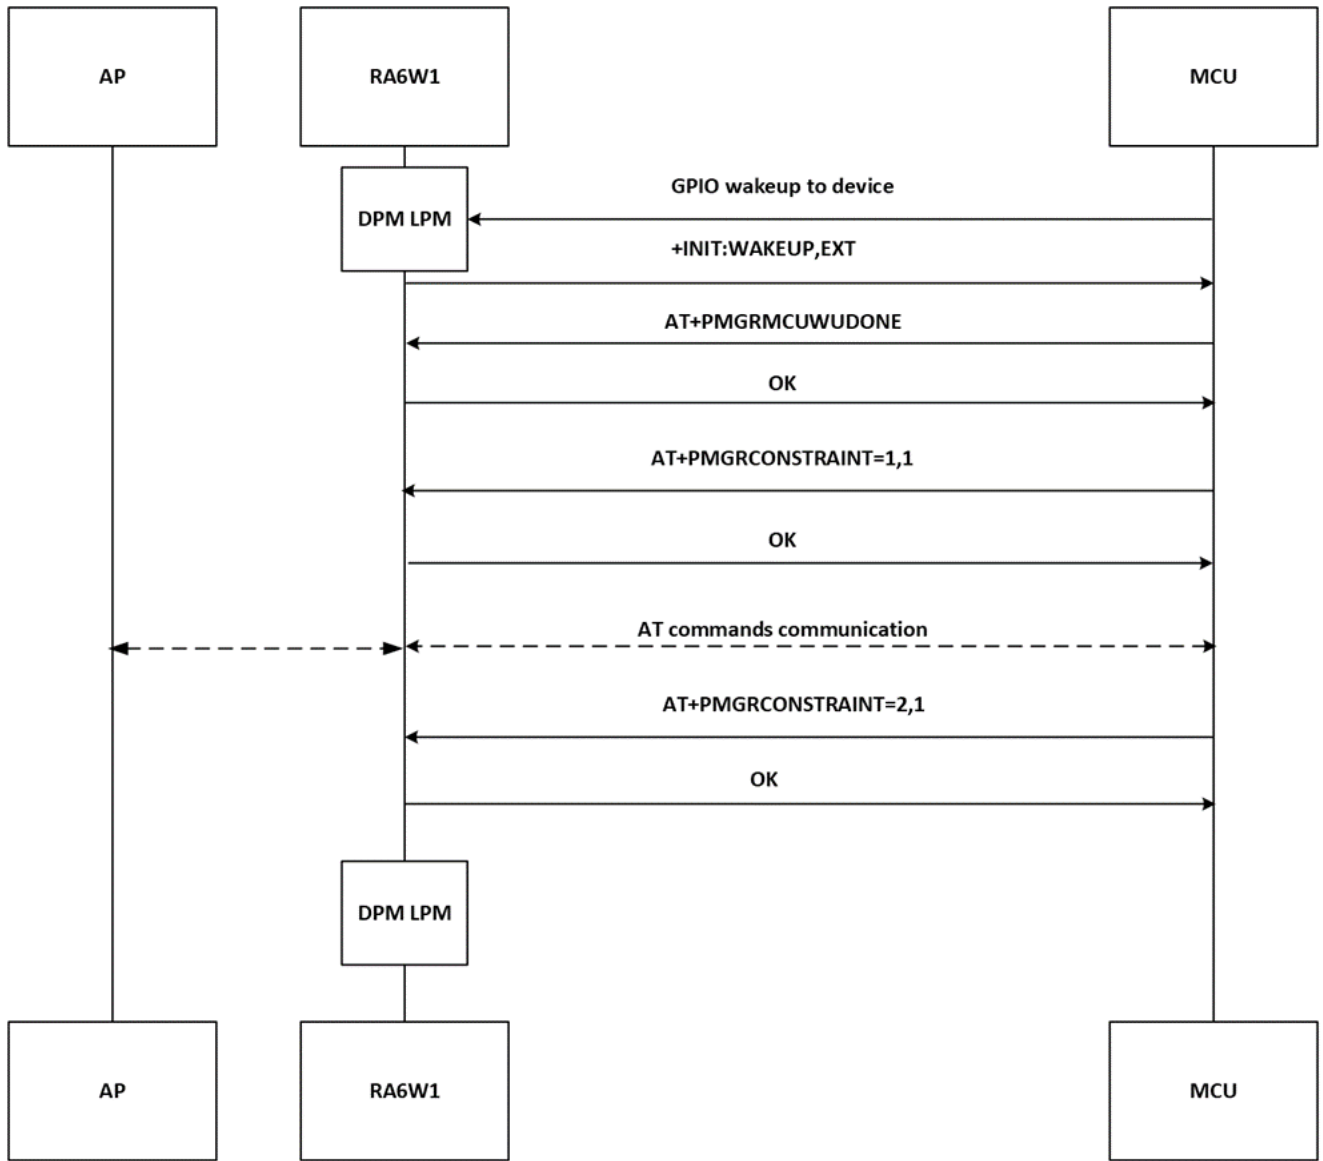

Figure 17. Flow of AT commands for waking up by GPIO of MCU
- GPIO from MCU, see Figure 17